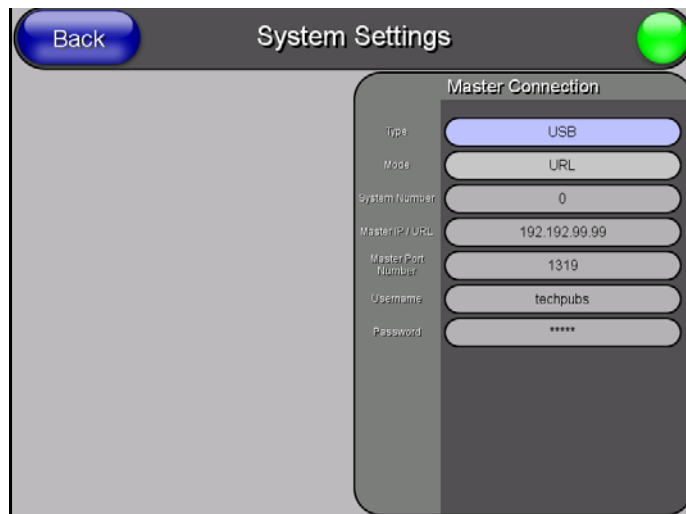

FIG. 46 System Settings page - USB Connection
3. In the Protected Settings page, select **System Settings** to open the System Settings page (FIG. 46).